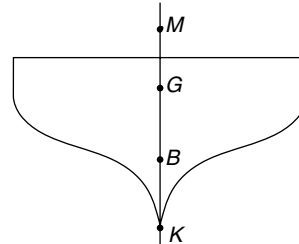

Figure 21.15
- $KB$  = vertical distance of the centre of buoyancy ( $B$ ) above the keel ( $K$ ) = 1.2 m (see Figure 21.15),